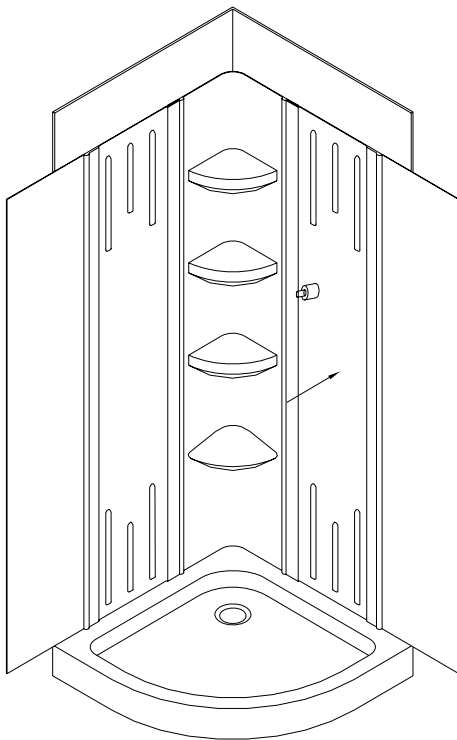

Fig 9
8. Place the side panel in position and apply pressure to the complete surface top to bottom to ensure good overall contact. DO NOT trim (Fig 9).